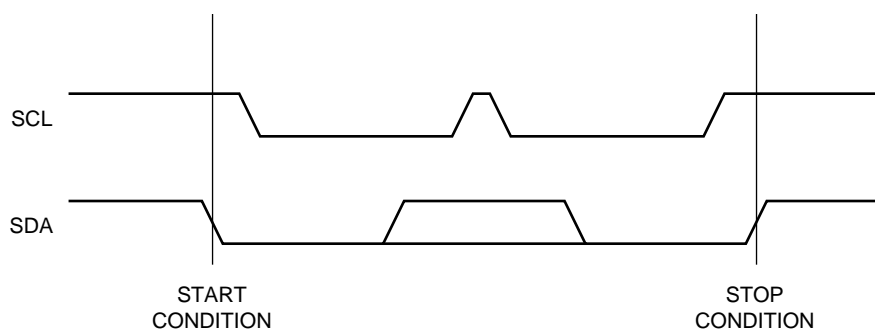

Figure 5. Start/Stop Timing
- (1) Data transfer may be initiated only when the bus is not busy.
- (2) During a data transfer, the data line must remain stable whenever the clock line is high. Any changes in the data line while the clock line is high will be interpreted as a START or STOP condition (Figure 5).